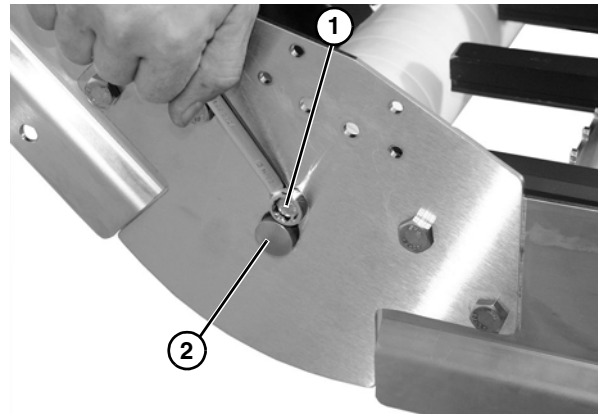

Figure 55
4. Remove cap screw (Figure 55, item 1) for lower knuckle shaft assembly (Figure 55, item 2).